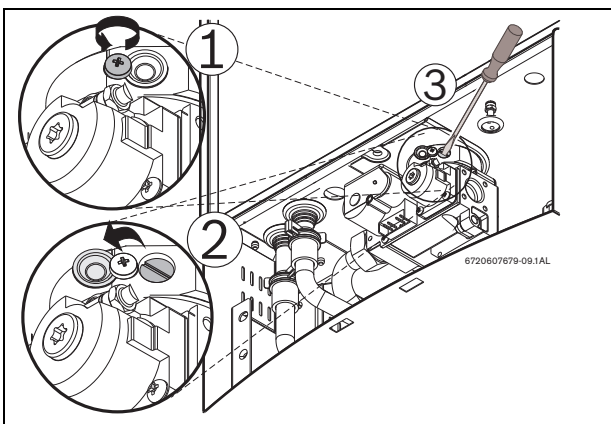

Fig. 17 Adjusting P1 CO2 level
- ▶ Loosen yellow painted philips screw (1) and cover should rotate down (2) revealing a recessed brass slotted screw. Fig. 17.